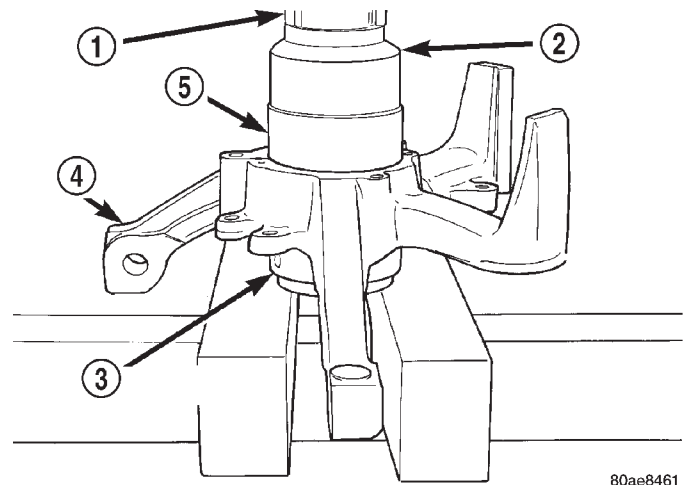

Fig. 39 Pressing Wheel Bearing Into Steering Knuckle
(1) Wipe the bore of the steering knuckle clean of any grease or dirt with a clean, dry shop towel.
(2) Place the new wheel bearing into the bore of the steering knuckle. Be sure the wheel bearing is placed squarely into the bore. Place the steering knuckle in an arbor press with Receiver, Special Tool C-4698-2, supporting the steering knuckle (Fig. 39). Place Driver, Special Tool 5052, on the outer race of the wheel bearing. Press the wheel bearing into the steering knuckle until it is fully bottomed in the bore of the steering knuckle. Remove the knuckle from the press.